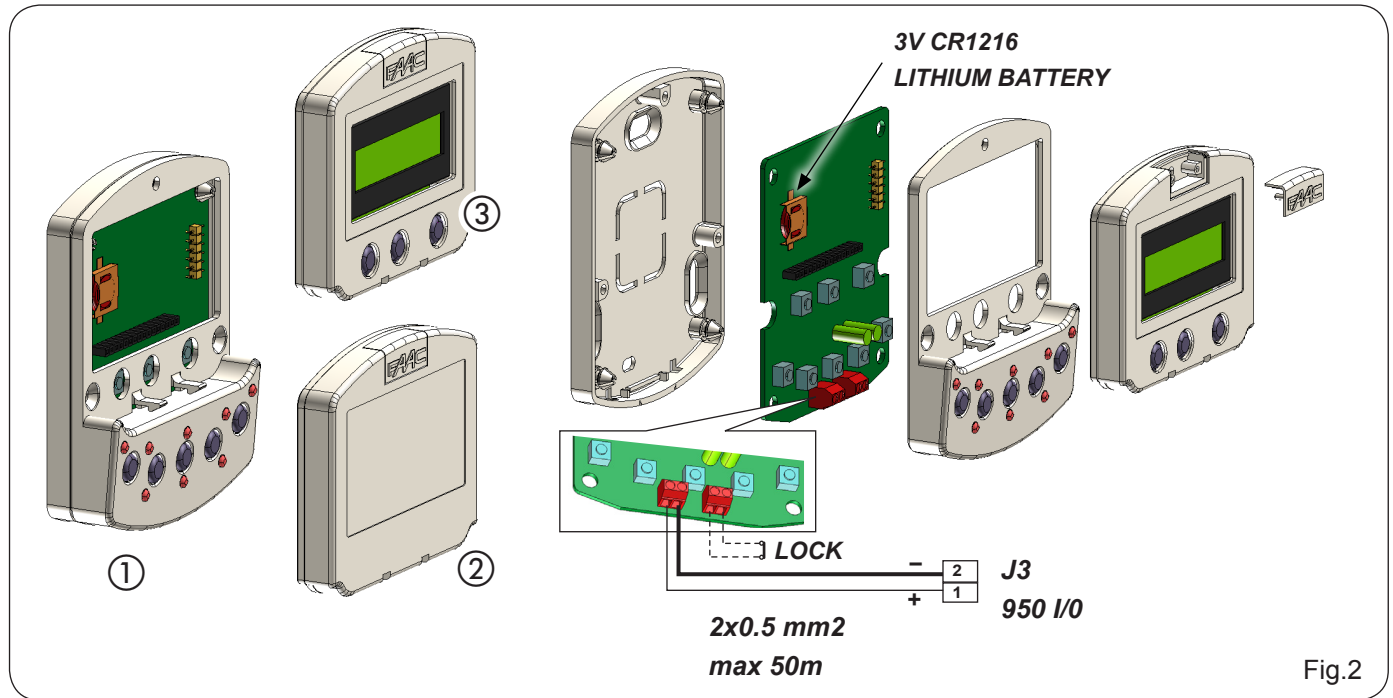

Fig.2
The KP-CONTROLLER is used to select the operating modes, adjust and program the Series 950 automatic doors. It is divided into two parts: a fixed part for selecting the operating mode using buttons and corresponding LEDs (Fig. 2 ref. ①), and a removable part with LCD and selection keys for accessing complete programming (Fig.2 ref. ③). The KP-CONTROLLER display can be used as a temporary programming unit by setting ON the parameter "Maintain settings" in the ADVANCED MENU: once all programming and adjustments have been made, the KP-CONTROLLER can be removed completely as all the settings are stored on the 950 MPS board.
If the KP-CONTROLLER is installed without a display, a cover is installed in its place (Fig. 2 ref. ②).
The KP-CONTROLLER can be inhibited using a key combination (see the special LOCK function) or a switch to create an internal jumper (Fig. 2 ref. LOCK).
Refer to Fig. 2 for the installation exploded view. There are two openings for running the connection cable.
The KP-CONTROLLER must be connected to the 950 I/O board using a 2 x 0.5 mm² max 50 m cable (Fig. 2). If the two LOCK terminals are connected to each other, as shown in Fig. 2, all programmer keys are inhibited.